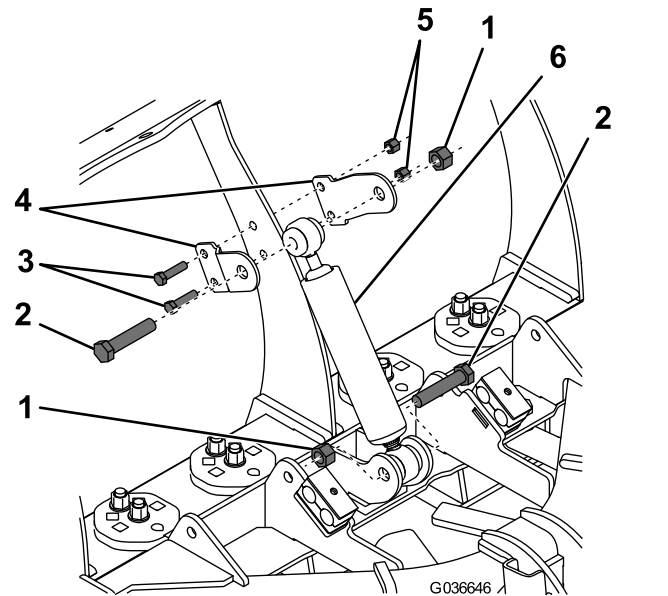

Figure 5
3. Secure the end of the shock absorber to the push-frame assembly using a bolt (5/8 inch) and locknut as shown in Figure 5.
4. Attach the blade shock-mount to the top of the shock absorber using a bolt (5/8 inch) and locknut as shown in Figure 5.
- Slot the blade shock-mount onto the center rib of the plow and secure it using 2 bolts (3/8 x 1-1/2 inches) and locknuts (Figure 5).
- Extend the shock absorber so that 6 mm (1/4 inch) of the rod is visible (Figure 5).